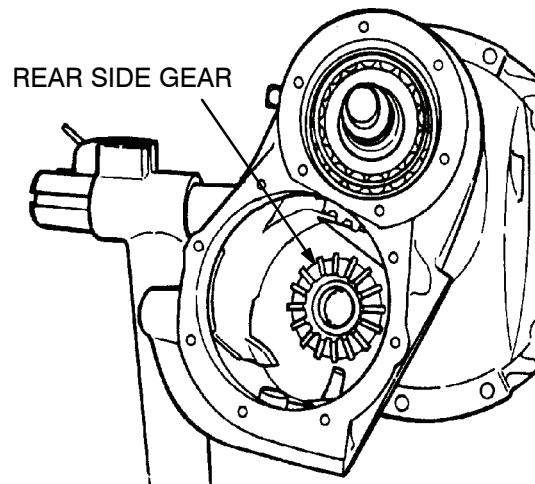

Figure 16. Rear Side Gear Removal.
- (8) Remove the shims from between the bearing cage and the differential carrier.
- (9) Remove the rear side gear and the bearing cone from the carrier. Remove the collar. Figure 16.